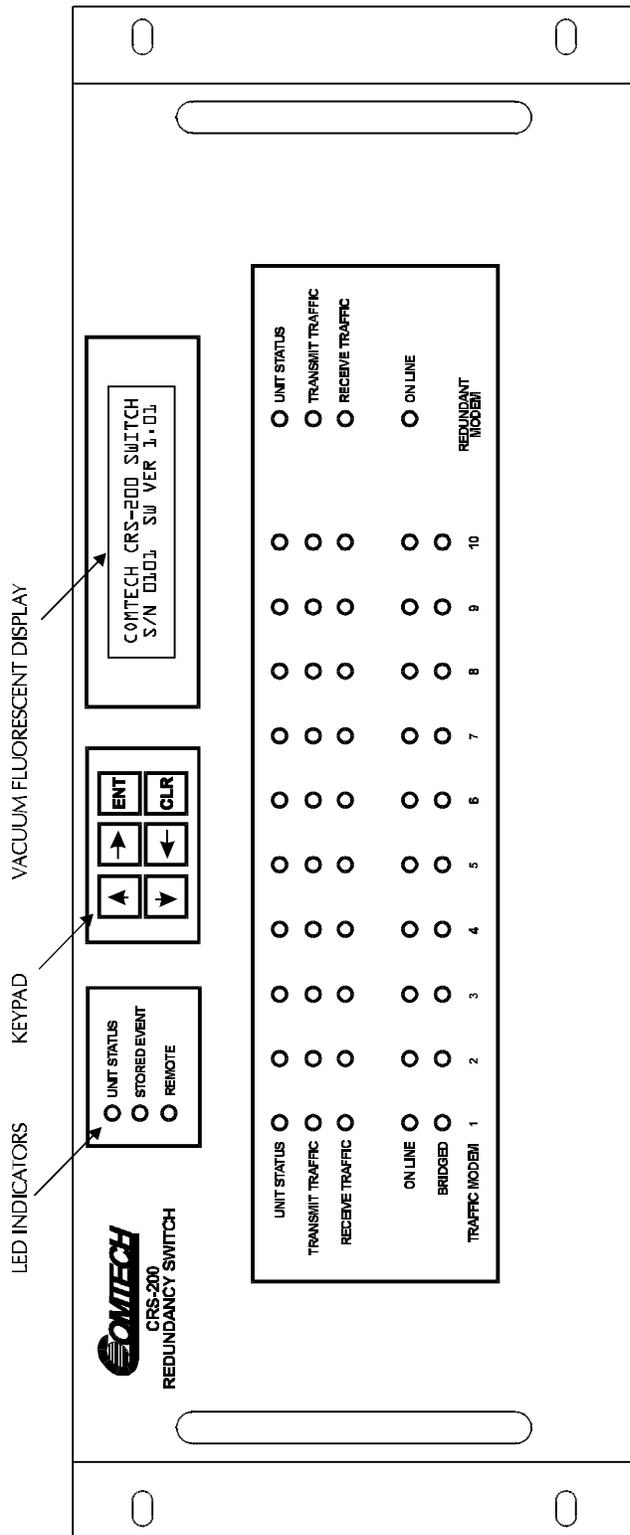

FIGURE 1 CRS-200 FRONT PANEL
4.1 FRONT PANEL - See Figure 1